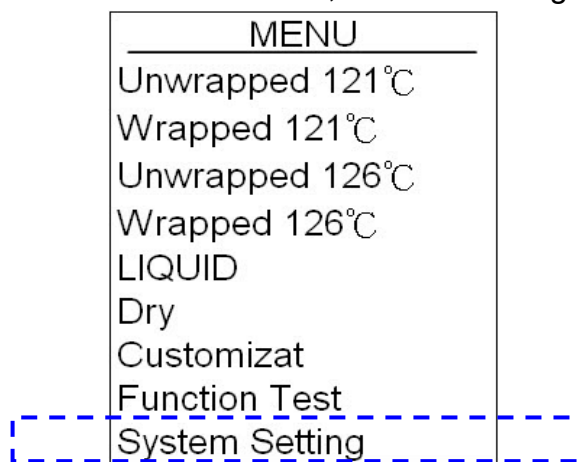
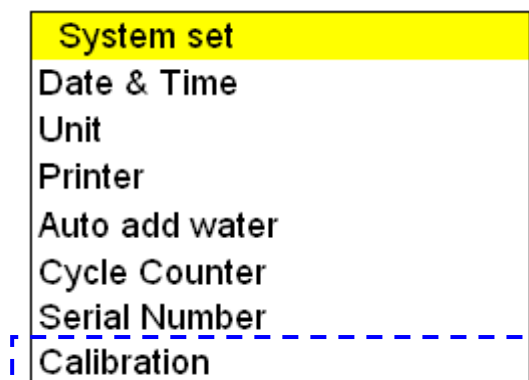

Figure 143
Figure 144
- A. Press  or  button to select System Setting program (Figure 143), and then press  button to select the Calibration, as shown in Figure 144.